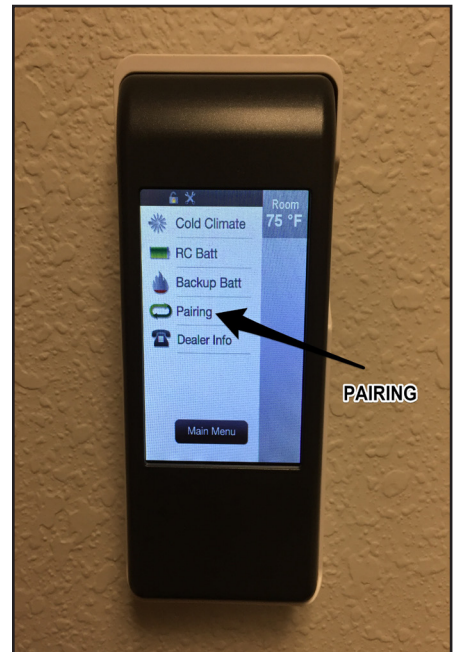

Figure 8. IFT-RC400 Wall Mount / Pairing Screen
3. Place the IFT-RC400 inside the wall mount. See Figure 8.
While the green LED on the IFT-ECM is blinking, tap anywhere on the gray indicator bar located at the top of the IFT-RC400 screen. Tap on the pairing function as shown in Figure 8. If the IFT-RC400 has been paired successfully to the IFT-ECM, a double audible “beep” will be heard from the IFT-ECM.